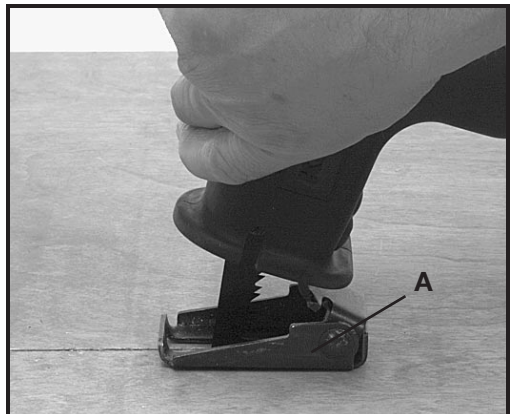

Fig. 12
The shoe (A) Fig. 12, serves as a rest while making a cut. It is pivoted so the saw may be gradually raised to a position perpendicular to the work as the saw is moved toward the operator.